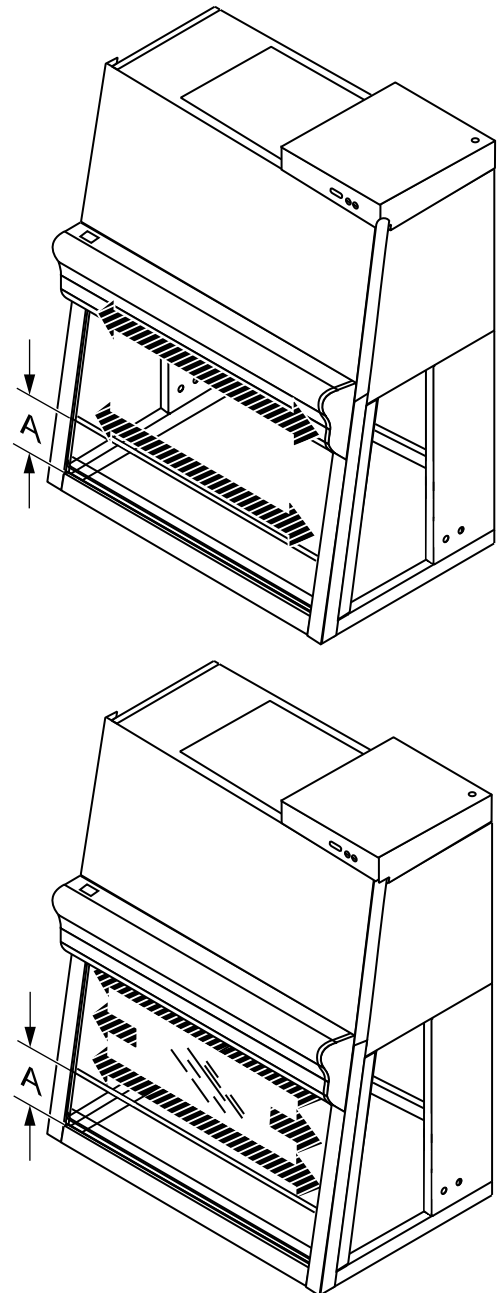

Fig. A10,
1. **Fig. A10:** Move the front window to the safe working position **A**.